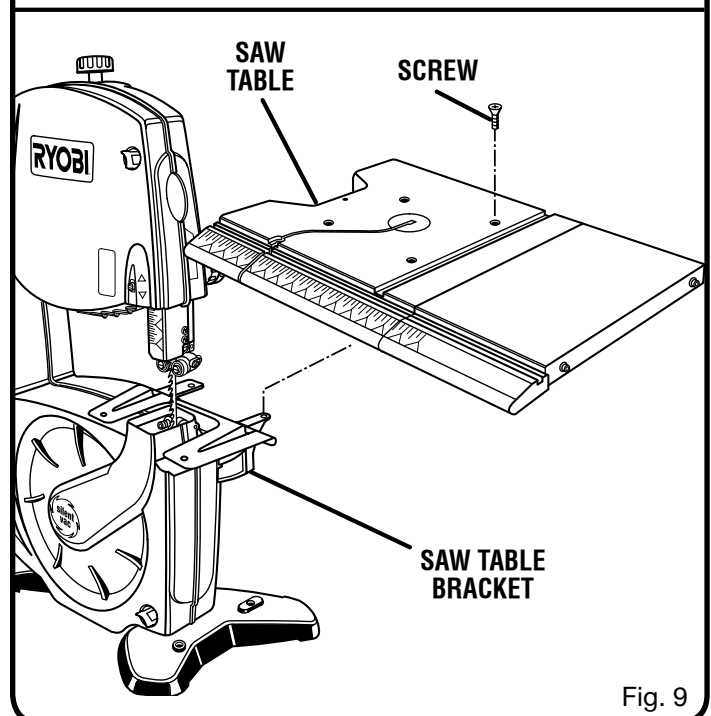

Fig. 9
- Place a flat washer on a hex bolt and insert through hole. Add a hex nut. Hand tighten. See Figure 9.
See Figures 9 - 10.